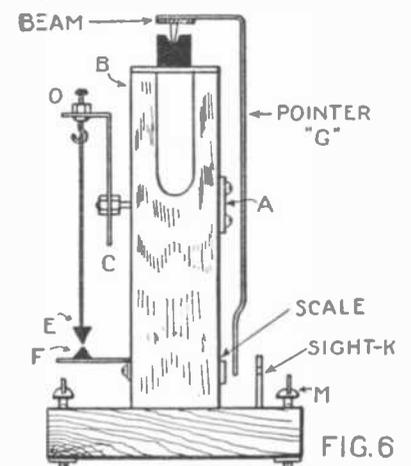

FIG. 6
A pointer is fastened to the top of the beam and passes before a scale near the bottom of the post. This is shown by (G) Fig. 6.
The last thing to make is the plumb bob. Cut a diamond-shaped piece of brass and solder a long slender bolt to the back. Bore a hole through the upright post from front to rear, and then pass the bolt through and screw the plate to the post so that the end of the bolt extends through the back. At (B), Fig. 6, bore a hole near each end of a strip of brass and bend it to a right angle. Fasten this to bolt (B) by a nut before and behind it (see Fig. 6). On top of this
solder a nut and pass bolt (D) through it. Solder a tiny hook to the end of it, as shown. Whittle a small lead plummet, E (—) and split the top. Put a silk thread in the slit and squeeze together. Tie the end of thread to hook on bolt D, (—). Solder a tack to a strip of brass and screw it to the post, so it extends out under the lead plumb bob, Fig. 6.